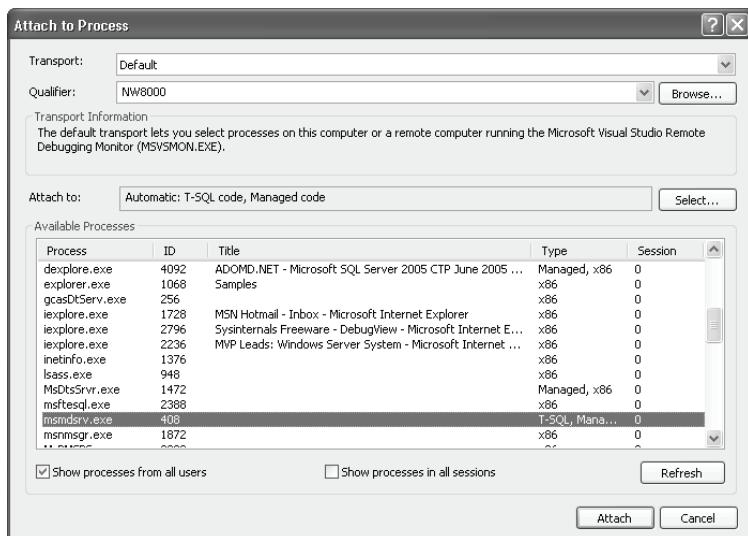

Figure 11.9 Debug a stored procedure by attaching to the SSAS server process.
4. Select the msmdsrv.exe process (Figure 11.9) and click the Attach button. VS.NET will display progress messages in the Output window as the DLL symbols get loaded.